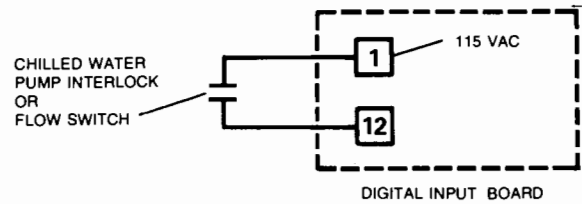

**FIG. 13 — REMOTE LCWT & CURRENT LIMIT SETPOINT INPUTS (PWM)**
**TB2-19**—Remote LCWT setpoint from external Energy Management System (EMS). Signal is a 1-11 SEC. Pulse Width Modulated (PWM) signal as follows: A 1 second application of 115 VAC corresponds to the Control Center operator programmed **CHILLED LIQUID TEMP** setpoint . . . An 11 second application of 115 VAC corresponds to the maximum allowable remote reset value, 10°F or 20°F (Refer to description of **REMOTE RESET TEMP RANGE**). All settings between 1 sec. and 11 sec. are linearly scaled. Refer to Fig. 13 below. Input will only be accepted if Control Center is in **REMOTE** mode. Calculate the setpoint as follows:
**TB2-1**—Connected to 115 VAC on Digital Input Board. Source voltage for remote LCWT setpoint (PWM signal) and remote current limit setpoint (PWM signal). Refer to Fig. 13 below.
**TB2-20**—Remote current limit setpoint from external Energy Management System (EMS). Signal is a 1-11 sec. Pulse Width Modulated (PWM) signal as follows: A 1 second application of 115 VAC corresponds to a setting of 100% FLA . . . an 11 second application of 115 VAC corresponds to a setting of 40% FLA. All settings between 1 sec. and 11 sec. are linearly scaled. Input will only be accepted when Control Center is in **REMOTE** mode. Refer to Fig. 13. Calculate the setpoint as follows: